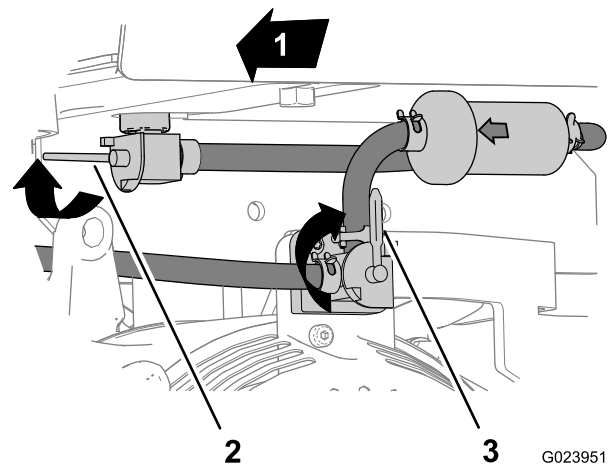

Figure 2
1. Rotate the lever for the tank-shutoff valve forward and up to the Off position (Figure 2).
3. Rotate the lever for the engine switch clockwise to the Stop position, and allow the engine to cool (Figure 2).
5. Remove the hose clamp and hose from the barbed fitting at the top of the engine switch (Figure 2).
- Rotate the shutoff valve for the fuel tank back and down to the On position (Figure 2).
- Install the hose and hose clamp onto the barbed fitting at the top of the engine switch (Figure 2).